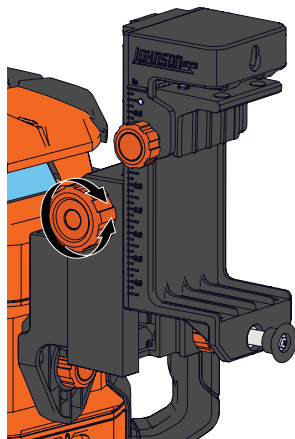

Figure 36
- To adjust the position of the laser, turn the larger height adjustment knob. The measurements on each side of the track mount accessory (inches and cm) determine the distance the laser beam is offset from the track. (Figure 36)